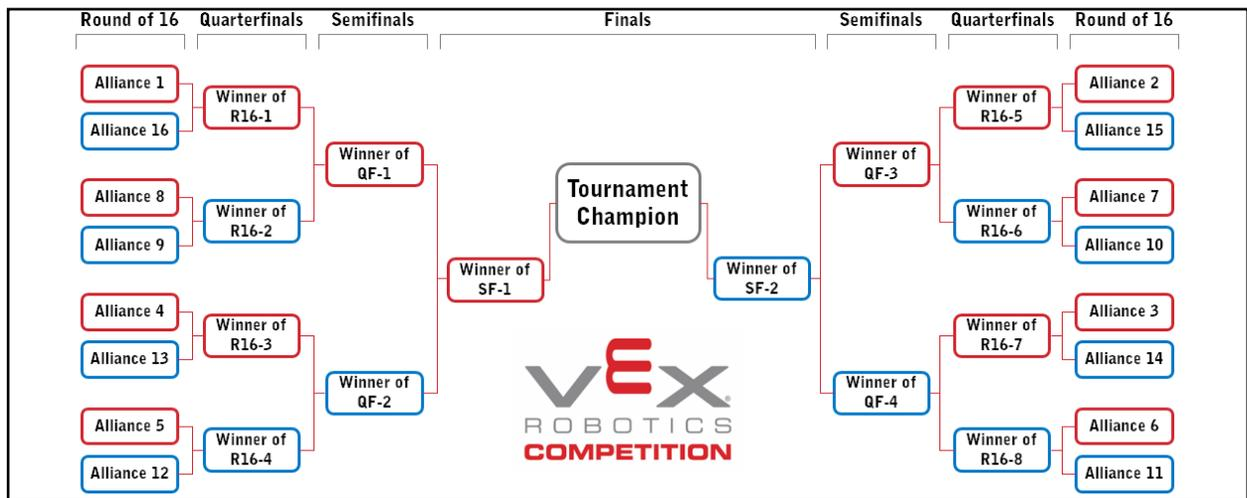

Figure 27: A 16-alliance bracket
A sixteen (16) *Alliance* bracket plays as shown in Figure 27: